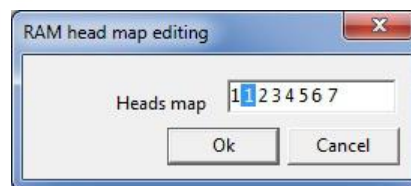

Fig. 2.15.
- 5) Fill in the map as «1 1 2 3 4 5 6 7» (Fig. 2.15):